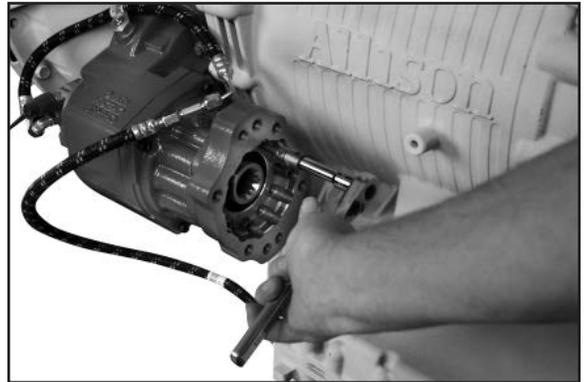

Figure 26
11. After determining the position of the rotatable flange/pump, install the flange with the gasket and cap screws supplied with the PTO (**Fig. 26**).